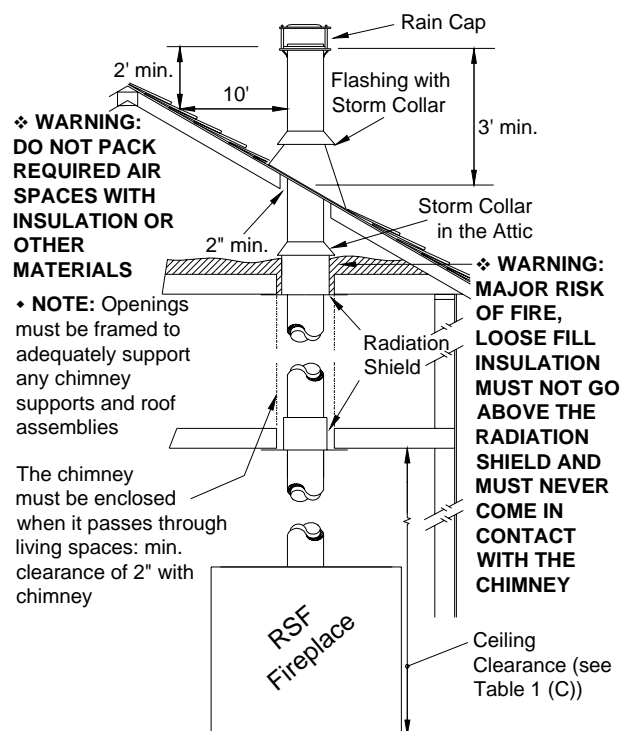

Figure 8 General Chimney Installation
2. From below, install a radiation shield in each floor through which the chimney passes. At the attic level, install a radiation shield and a storm collar as shown in Figure 8.